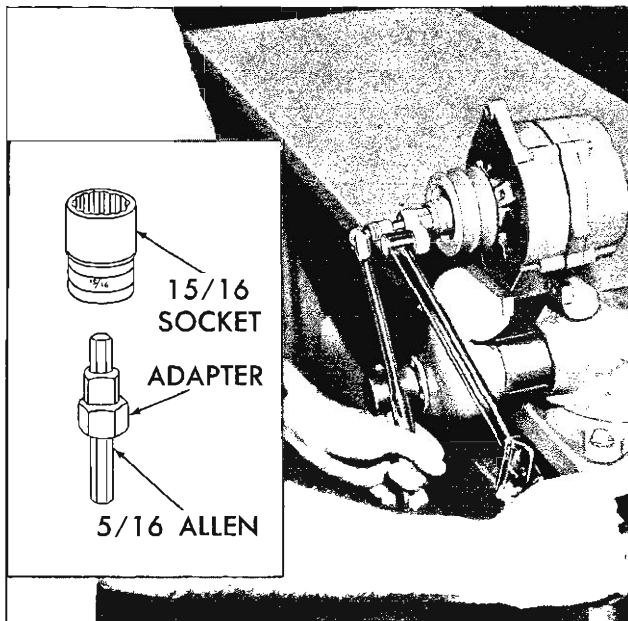

Fig. 21—Torquing Pulley Nut
3. Reverse steps 1 and 2 to install, use a torque wrench with a crawl-foot adapter (instead of box wrench) and torque the nut to 50 ft. lbs. (fig. 21).